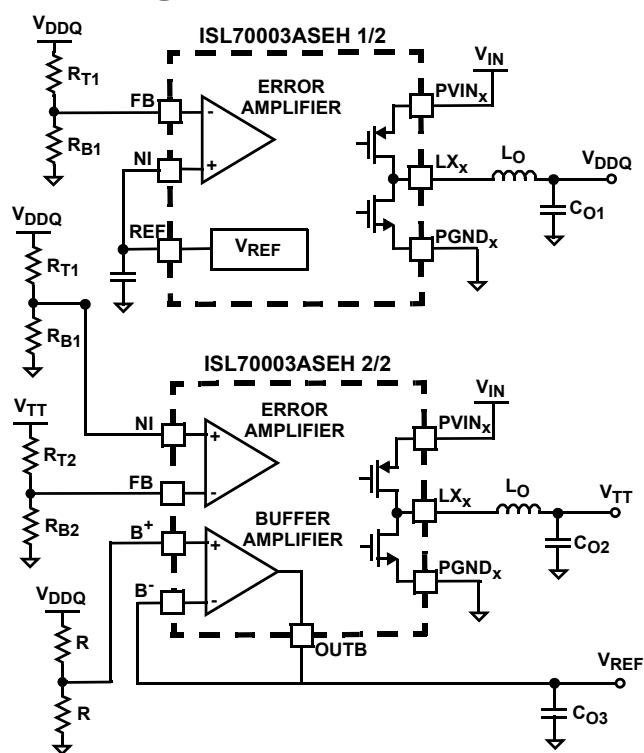

FIGURE 55. SIMPLIFIED DDR APPLICATION SCHEMATIC
In the DDR application presented in Figure 55, an independent architecture is implemented to generate the voltages needed for DDR memory applications. Consequently, both V_{DDQ} and V_{TT} are derived independently from the main power source. The first regulator supplies the 2.5V for the V_{DDQ} voltage. The output voltage is set by external dividers R_{T1} and R_{B1} . The second regulator generates the V_{TT} rail typically = $V_{DDQ}/2$. The resistor divider network R_{T2} and R_{B2} are used to set the output voltage to 1.25V. The V_{DDQ} rail has an additional voltage divider network consisting of R_{T1} and R_{B1} , the midpoint is connected to the noninverting input pin of the V_{TT} regulator's error amplifier (NI), effectively providing a tracking function for the V_{TT} voltage.